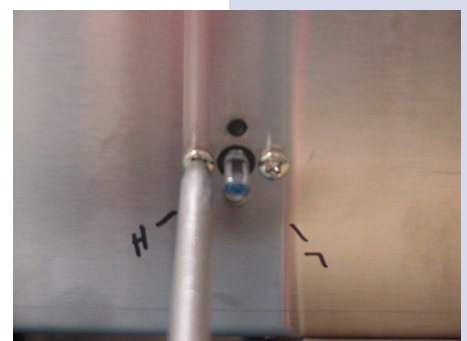

Figure 8
5. Remove the knob from the shaft and remove the 2 screws from the switch. (Figure 8)